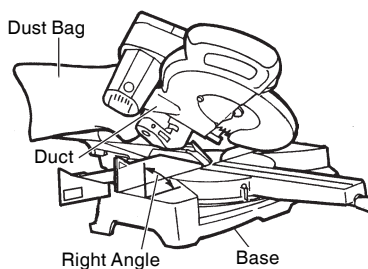

Fig. 50
- (1) When the dust bag has become full of sawdust, dust will be blown out of the dust bag when the saw blade rotates. Check the dust bag periodically and empty it before it becomes full.
- (2) During bevel and compound cutting, attach the dust bag at a right angle to the base surface as shown in Fig. 50.